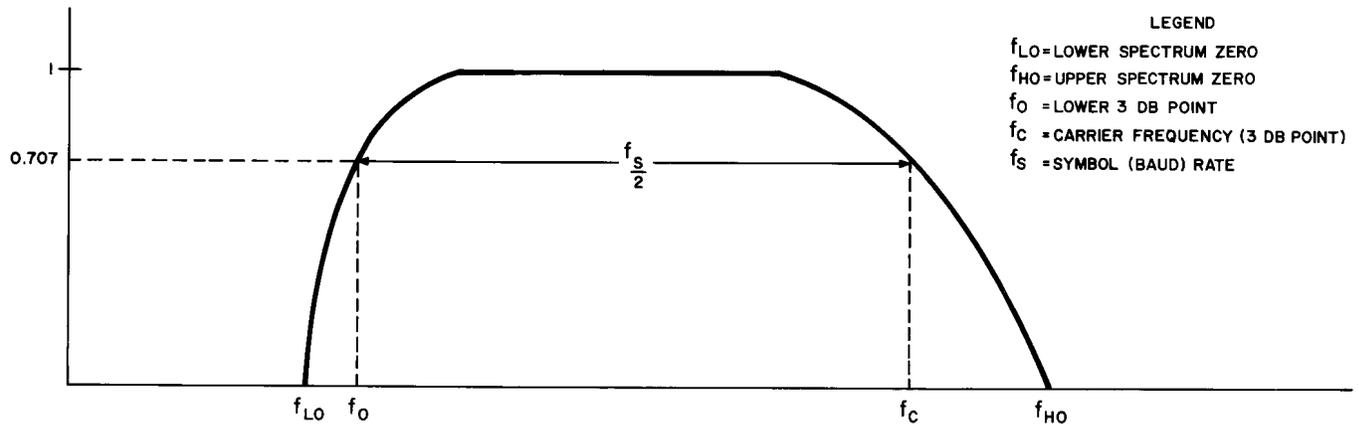

Fig. 9—General VSB Filter Amplitude Characteristics
**(f) Vestigial Sideband (VSB) Filter (6)**
**2.08** The VSB filter provides the desired spectral shaping for the double sideband amplitude-modulated signal before transmission over telephone facilities. The filter suppresses all but a small portion, or vestige, of the upper sideband and lightly suppresses the lower sideband. Low-end roll-off characteristics (Fig. 9) allow the insertion of pilot tones at both ends of the line spectrum. The output signal from the VSB filter is applied to the summing amplifier.
**(g) Summing Amplifier (7)**
**(c) Vestigial Sideband (VSB) Filter (3)**
**2.23** Shaping of the passband signal by the VSB filter is one of the necessary spectral-shaping requirements. The receiver VSB filter has the same amplitude characteristics as the transmitter VSB filter (Fig. 9). The VSB filter also suppresses out-of-band line signal energy, particularly pilot tones and auxiliary channel energy. Loss and delay characteristics of the filter vary with the list coding of the receiver.
**(d) Amplitude Adjust Control (4)**